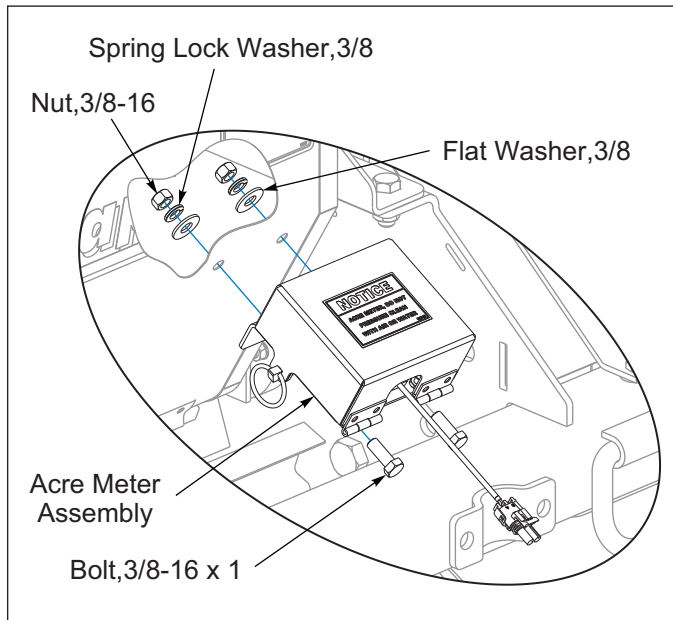

Figure 2-10: Mounting Acre Meter
1. Mount the Acre Meter Assembly to the front left side of the Seed Box below the bend. **See Figure 2-10.** Place the Acre Meter Assembly Bracket against the Seed Box as a guide for the two 13/32" diameter holes. Drill holes into the Seed Box.